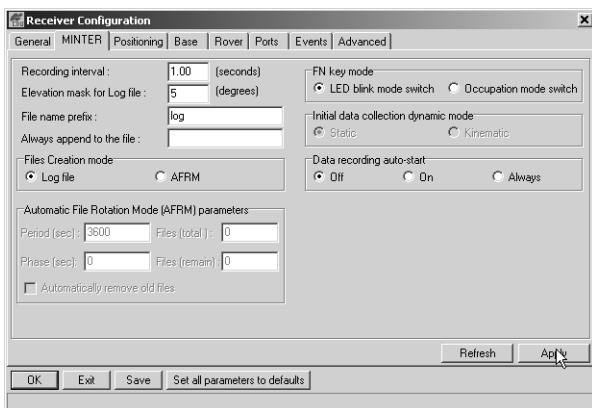

Figure 2-24. Receiver Configuration – MINTER Tab
4. Click the **MINTER** tab, set the following parameters and click **Apply** (Figure 2-24 on page 2-24). See the following pages for descriptions of these parameters: